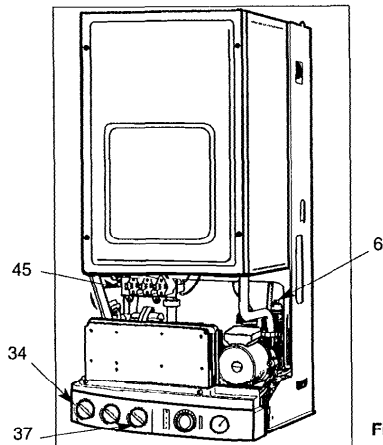

Fig. 16
- Open the automatic air vent (6 fig. 16)
- Turn selector switch (34 fig. 16) to heating only or heating and hot water position.
- Connect gas pressure gauge to test point (45 fig. 16).
- Turn selector switch (34 fig. 16) to heating only position.
- Turn the heating flow temperature adjustment to maximum (37 fig. 16).